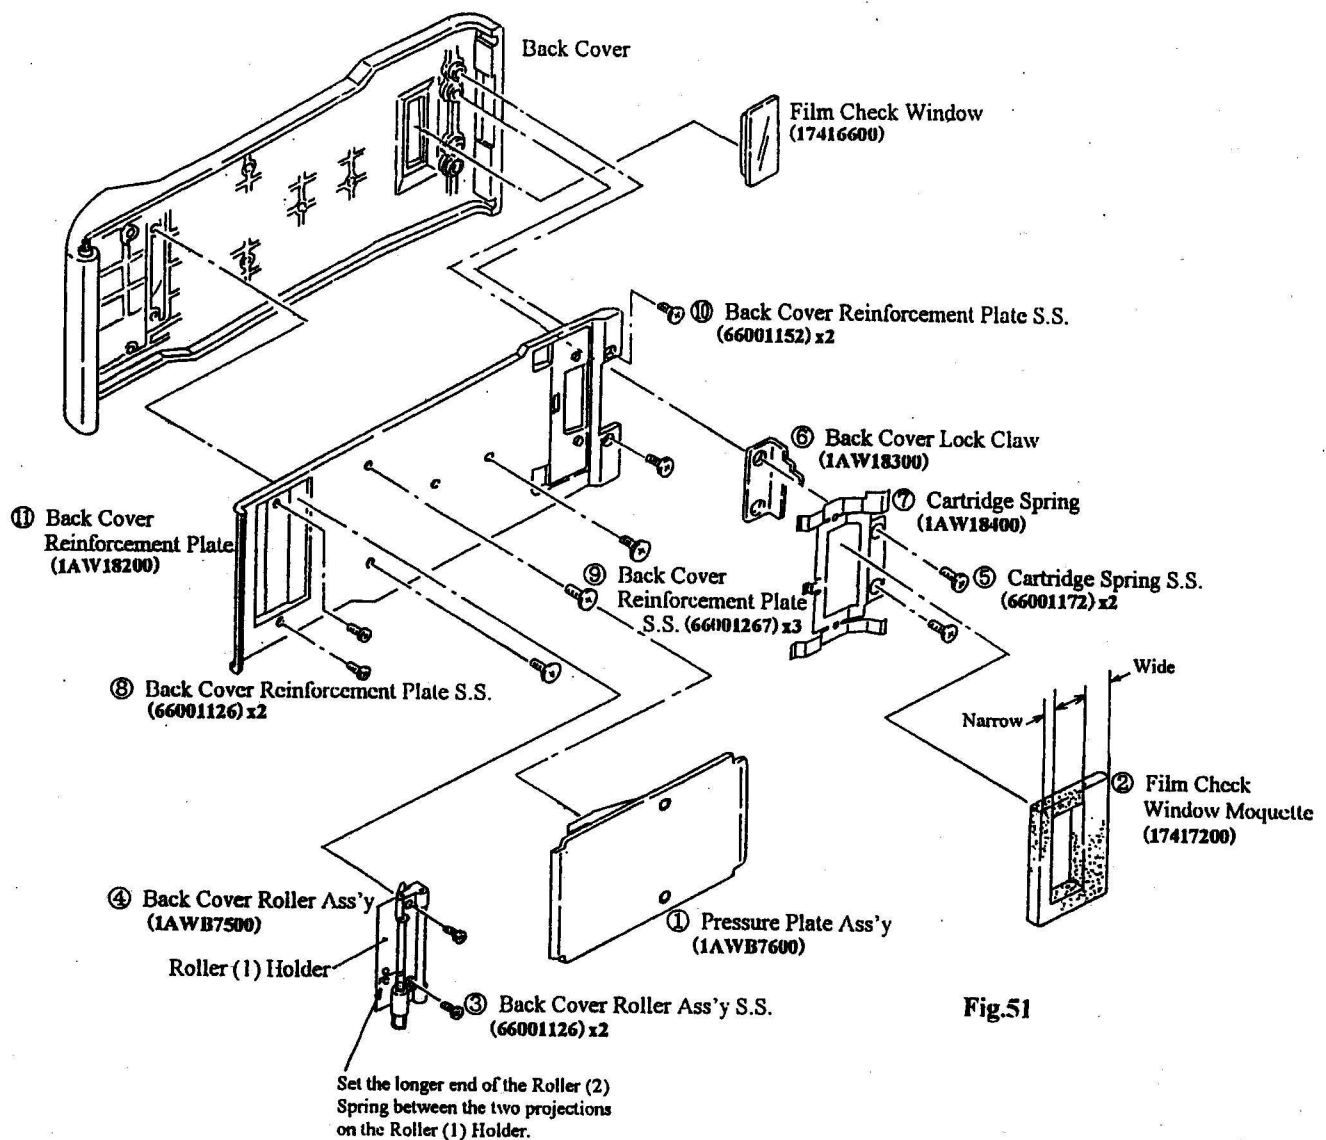

Fig.51
- 1) Remove the parts in the order of ① to ⑪ shown in Fig. 51.
- b) Stick the Film Check Window Moquette (17417200) in the position as shown in Fig. 51.
- c) Set the longer end of the Roller (2) Spring between the two projections on the Roller (1) Holder.